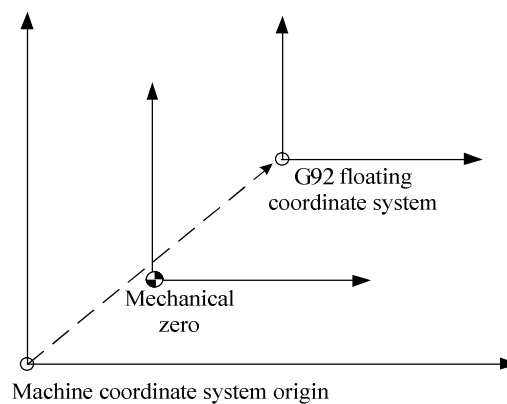

Fig. 4-2-11-1
1. As shown in Figure 4-2-11-1, the origin of the G92 floating coordinate system is the value in the machine coordinate system, and has no relation with the workpiece coordinate system. For the validity of G92 after setting, it is valid: